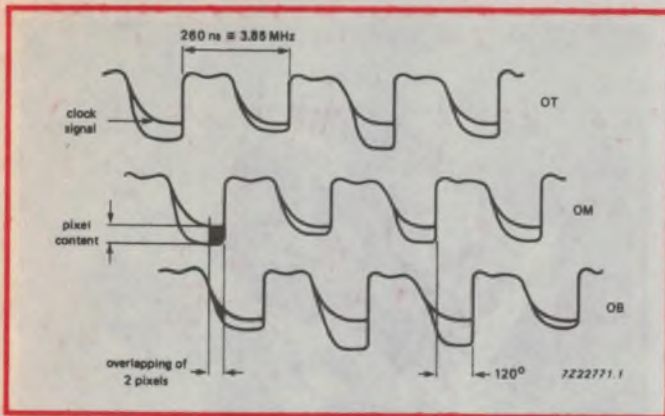

Fig.3: The three sensor output signals provide some overlapping between adjacent pixels.
The read-out registers have separate outputs (output top (OT), middle (OM), and bottom (OB)) and the charge, read out sequentially from the three channels, represents the signal of one TV line; lines are read out in the normal scanning sequence of the TV standard. The output signals (Fig.3) have a phase difference of 120° and each consists of clock-generated crosstalk plus the pixel content. The duty factor of the signals is about 50% so there is a short time in which two outputs are active simultaneously.
When a transistor's base potential falls below that of the emitter, the transistor is switched on. Fig.3 shows that a sensor output signal has its lowest voltage when a pixel is being read out. For most of this period, the other two outputs have a higher potential so this circuit automatically combines the pixels from the three channels sequentially.